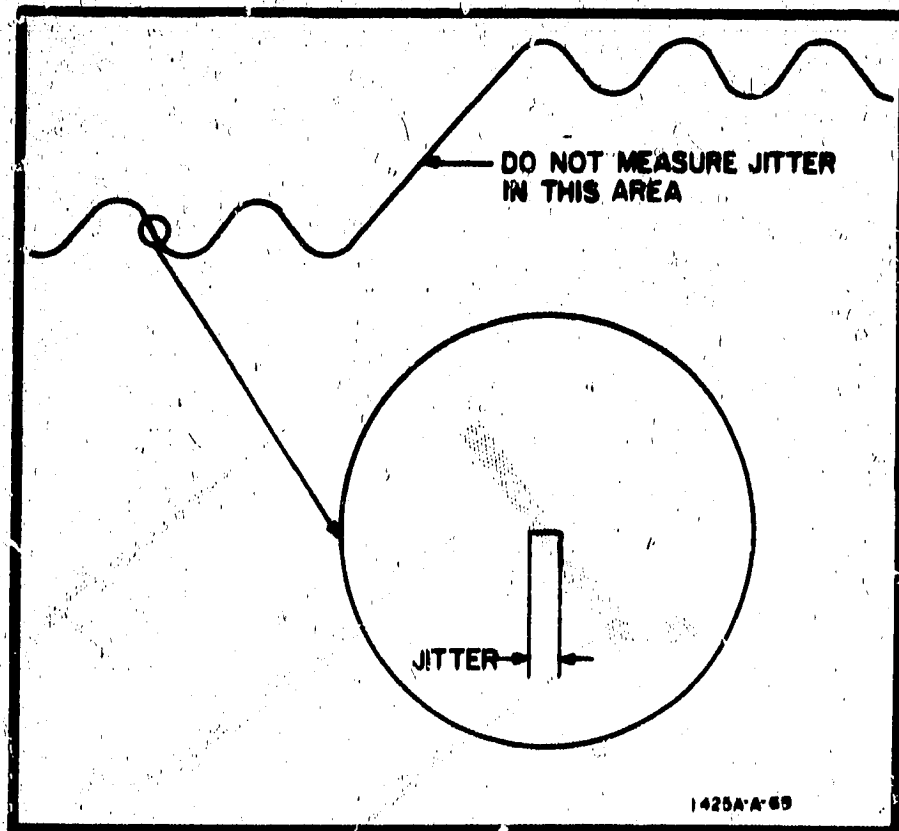

Figure 3. Jitter
10. Jitter is defined as being 20 ps when 80% of the dots comprising the signal width appear within 20 ps on the fastest rising portion of a display. See Figure 3. Table 1 gives the sensitivity specification.
16. a. Set appropriate signal generator for 100 mV at 1 GHz. Adjust STABILITY and Time Base MODE and LEVEL for most stable display. Jitter should be less than 20 ps. (See Paragraph 10 and Figure 3.)